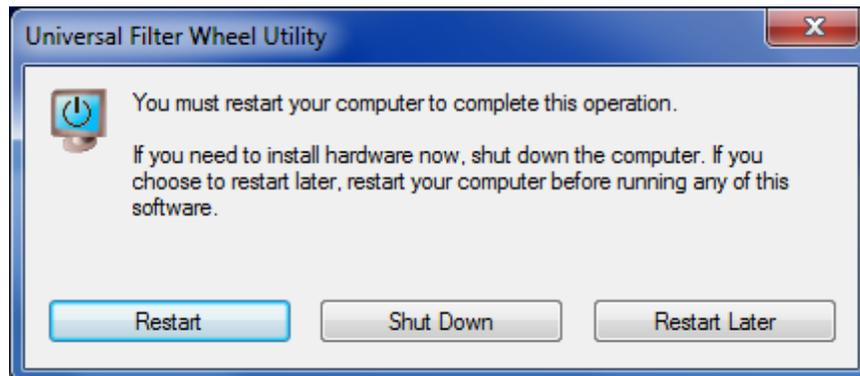

Figure 44: Restart Computer
- A dialog box will appear to restart the computer, as shown in Figure 44. This software can be used only after the computer is restarted.